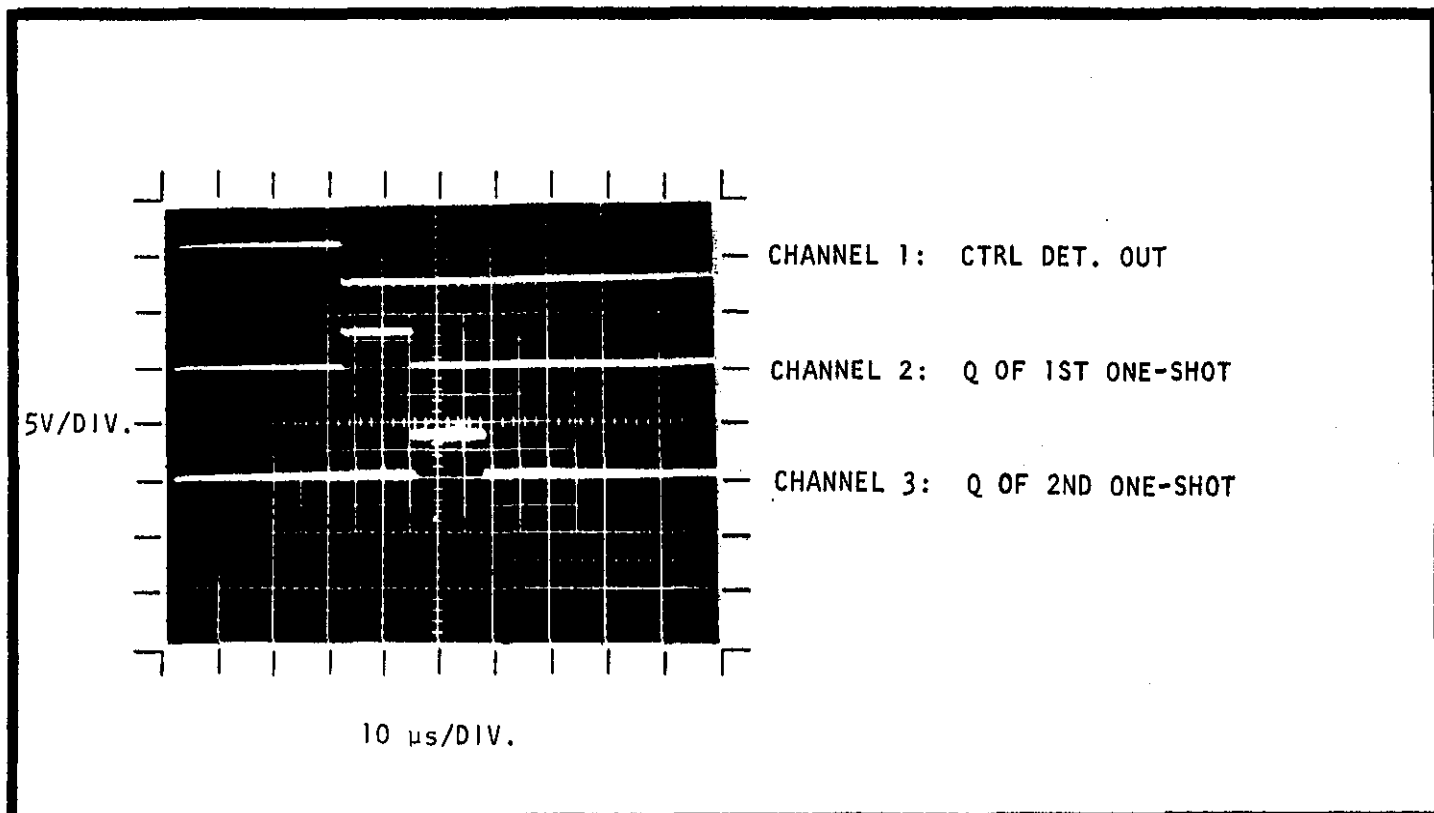

FIGURE 14. Trace For Test #6.
6. Verify the traces shown in Figure 14.